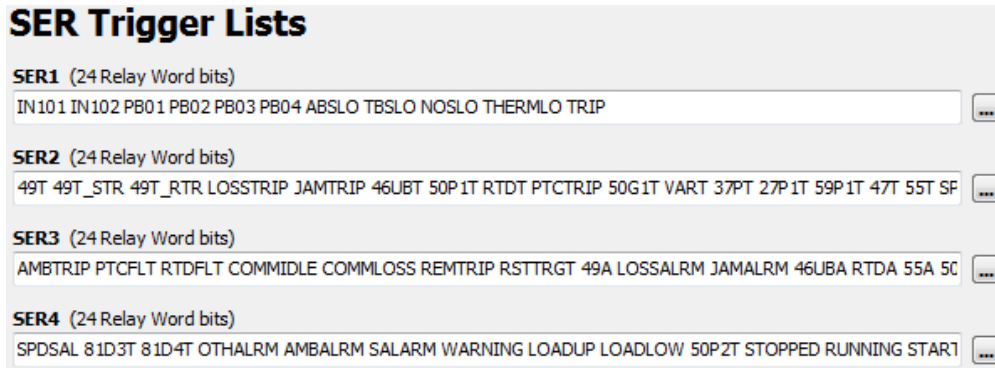
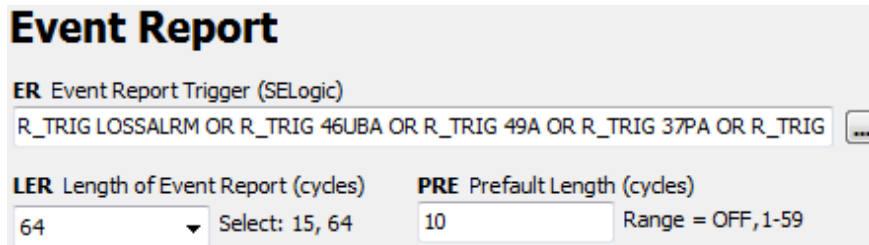

Figure 85: SEL-710 Trigger Lists Settings
Figure 86: SEL-710 Event Report Settings
74. Enter the following information in the Report on the left side of the Settings Editor main window (Figure 85 and Figure 86).